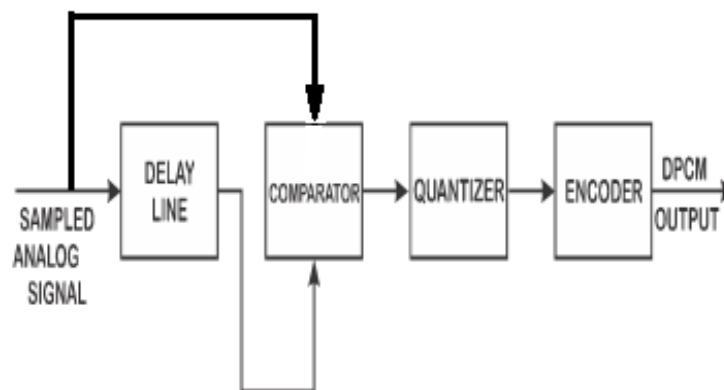

Fig.3.13
- ❖ The outline of a DPCM modulator is shown in Fig 3.13.